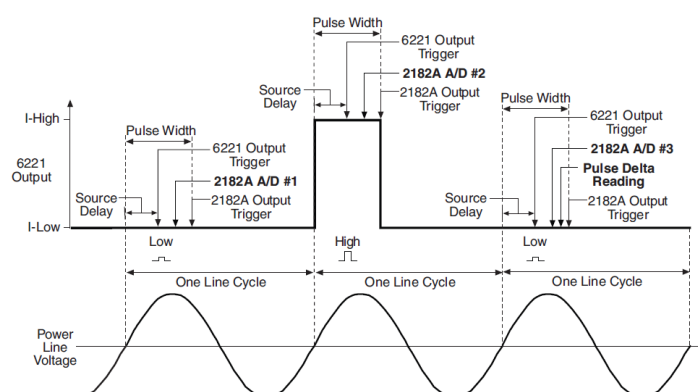
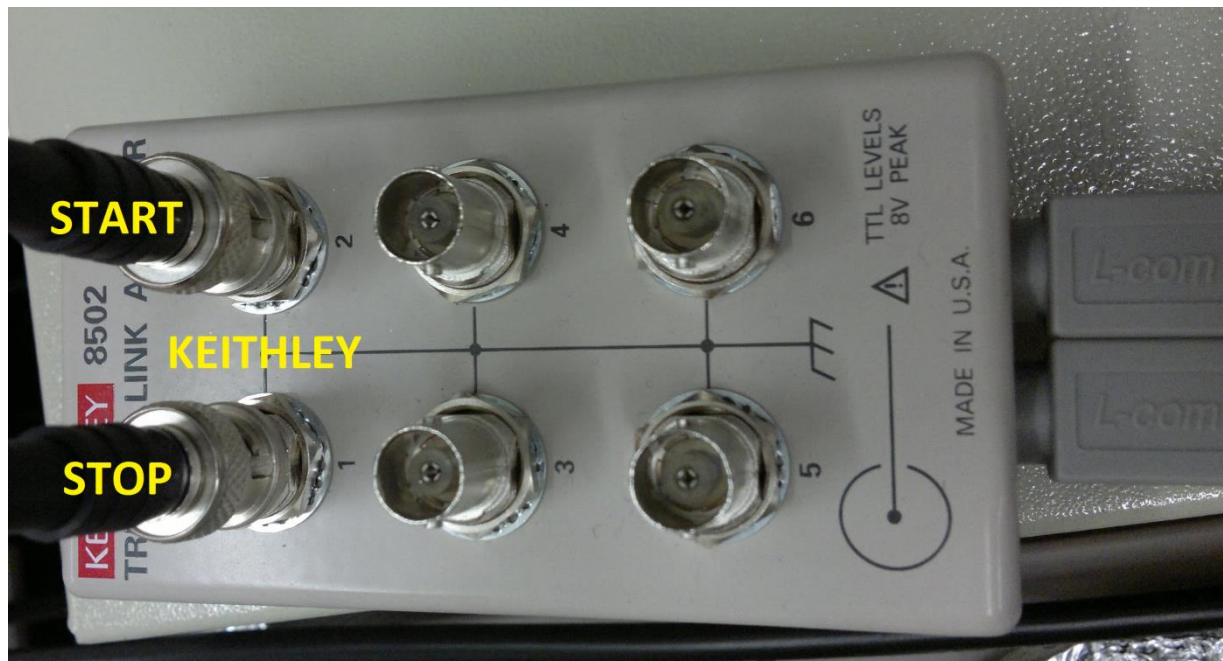

Figure 5. Triggering sequence in the pulse mode.
Figure 7. Location of the KEITHLEY START and the KEITHLEY STOP outputs.
- Figure 5 shows the triggering sequence between the Keithley 6221 current source and the Keithley 2182A nanovoltmeter. The 6221 Output Trigger (from now on the **Keithley Start**) has to be connected to the **PE6 (J11 31)** port of the microcontroller. The 2182A Output Trigger (from now on the **Keithley Stop**) has to be connected to the **PD2 (J11 13)** port of the microcontroller. Triggering signals coming from Keithley devices are available through the device visible in figure 7. By default, the Keithley Start signal is available on the line number 2, and the Keithley Stop signal is available on the line number 1.